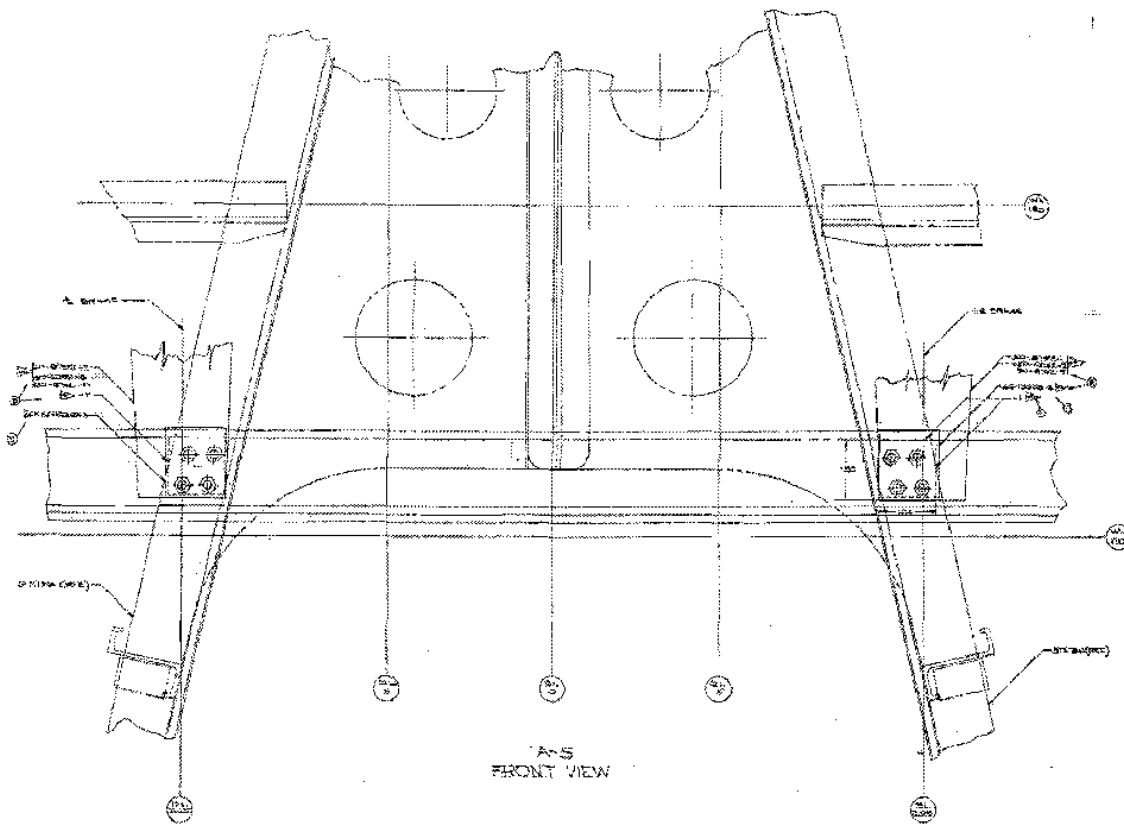

Fig. 2 Location of Snubber Bolts, Front View
**Note:** Bolts are accessible on station 312 bulkhead in lower forward compartment 1.5 to 2.0 feet from the floor; left and right snubber bolts are located as shown in fig. 2 (attention front view!)